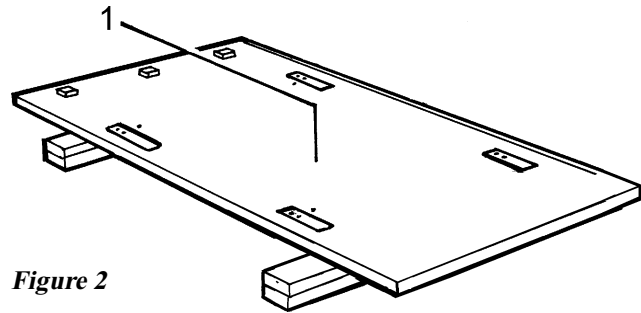
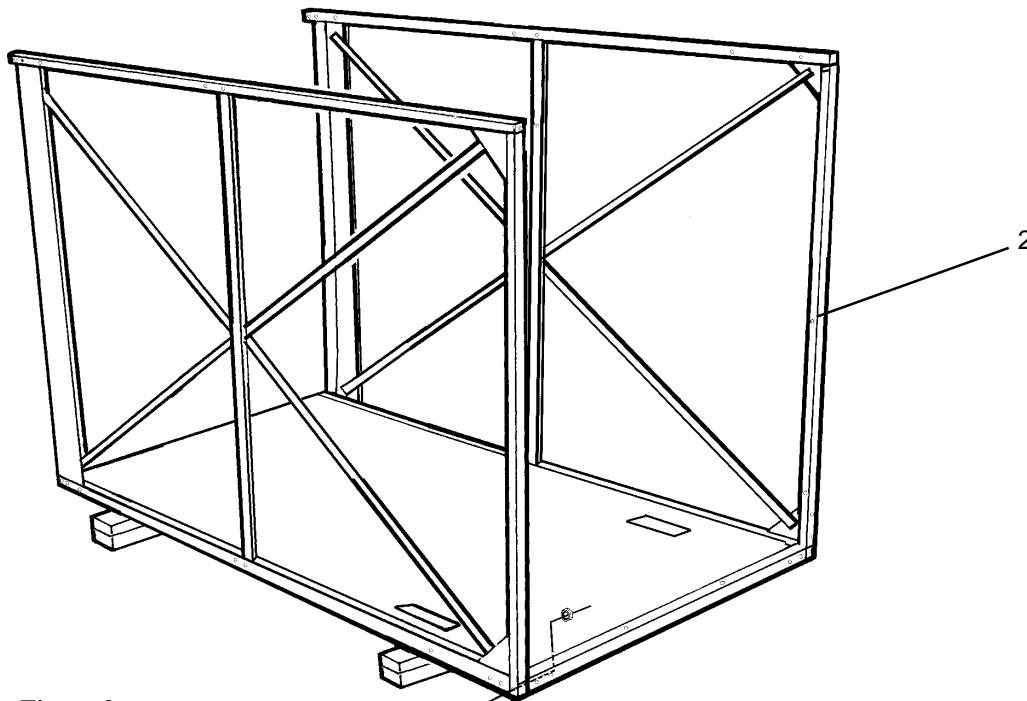

Figure 2
Figure 3
**Step 1:** Place the back panel (Item 1) onto several long blocks of wood (or other supports) laid upon the floor (Figure 2). The lumber from the incubator rack packing crates is ideal for this purpose. Attach the side frames (Item 2) loosely to the back panel (Figure 3) using Items 4 and 5.
**Step 2:** Insert the top frame assembly (Item 3) and attach loosely using Items 4 and 5, (Figure 3).